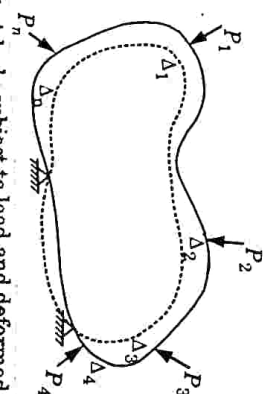

Fig. 3.9.1. A body subject to load and deformed shape.
1. Consider the body shown in Fig. 3.9.1(a) which is subjected to forces  $P_1, P_2, P_3, P_4, \dots, P_n$  applied gradually.